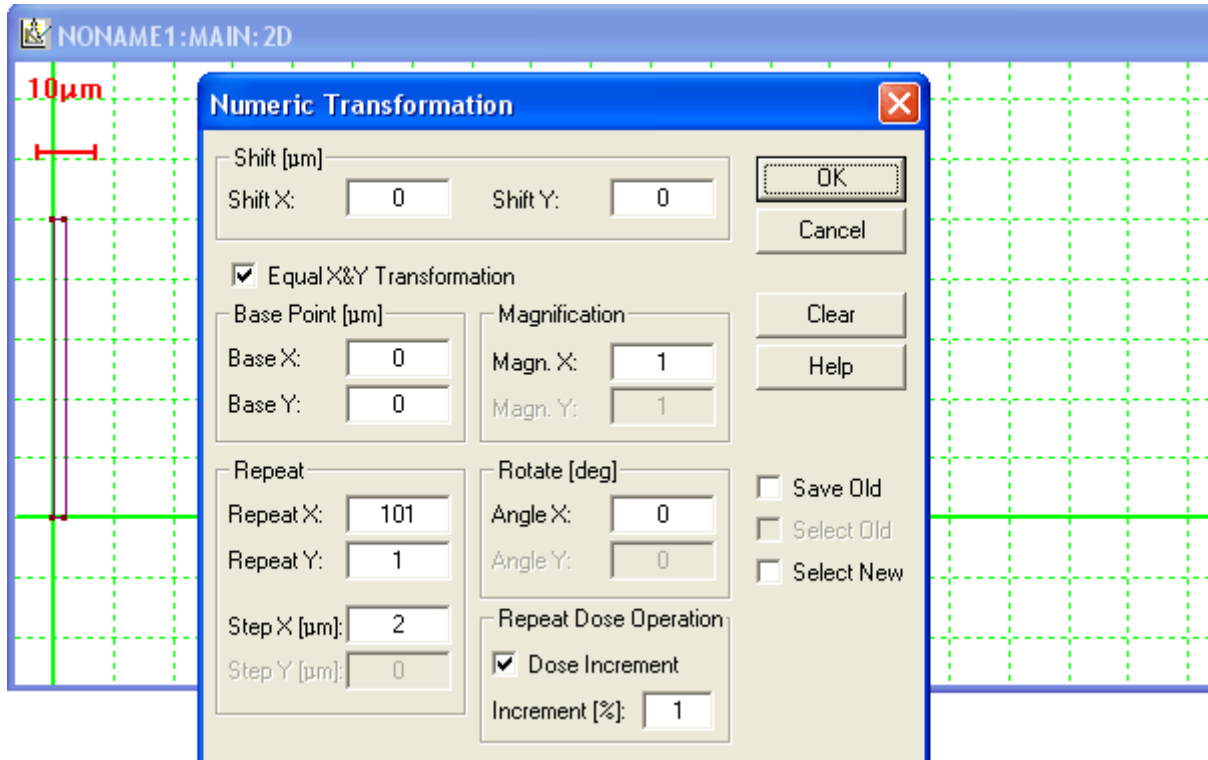

Fig. 3 Parameters for transformation using **Numeric Transformation** dialogue
In just created window for the **Main** structure introduce rectangular element with coordinates of left-bottom vertex – (0, 0) μm and right-top vertex (2, 50) μm , respectively (see Fig. 3).
- In the dialogue specify number of repetitions along X axis (**Repeat X**) equal to 101 with steps (**Step X**) equal to 2 μm. Set dose increment (**Dose Increment**) to 1 % (see Fig. 3);